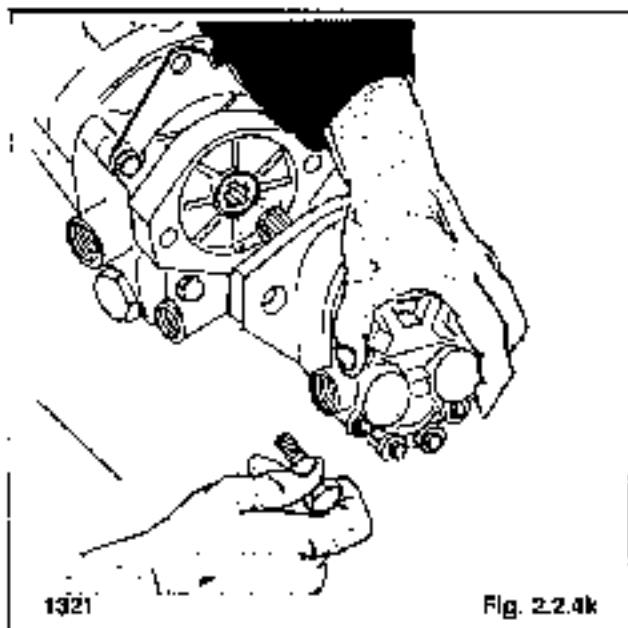

Fig. 2.2.4k
11. Install the hydraulic gear pump on the hydrostatic pump and reconnect the gear pump inlet hose and the hydraulic line between the gear pump and control valve (fig. 2.2.4k). Refer to section 1.2.4 for procedure. Tighten the hydraulic gear pump mounting bolts 27-31 ft lbs. (36.6-42 N.M.).